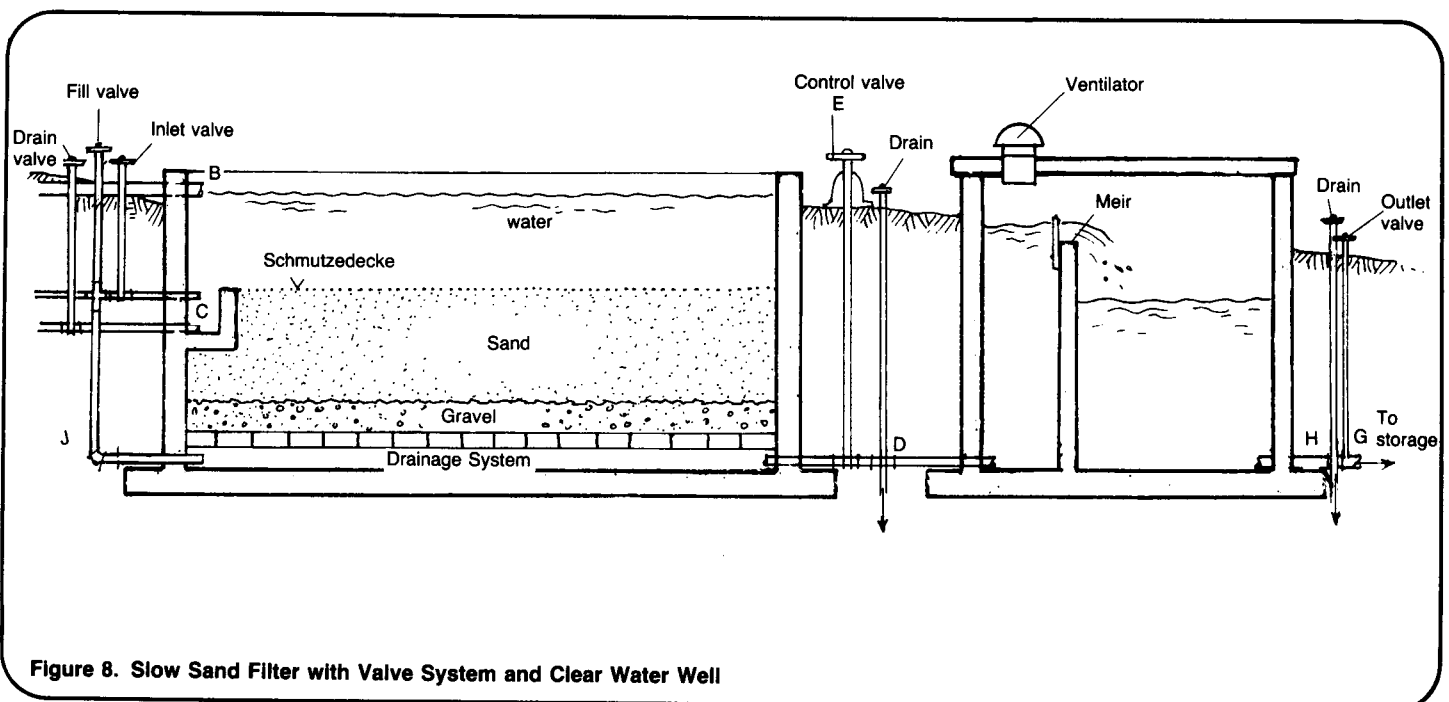

Figure 8. Slow Sand Filter with Valve System and Clear Water Well
The filter control system regulates the flow of water into and out of the sand filter and allows effective operation and maintenance. Refer to Figure 8 when reading these directions. Put piping in place as walls are built.
- Construct an overflow weir and clear water well. For small systems, the clear well may serve as storage for the completed system. In larger systems, a storage tank should be constructed. Build the clear well and weir from the same materials as the filter and follow similar construction steps. The tank should be at least 2.5m deep and hold 30-50 percent of daily water production. Ventilation, or preferably an access opening, should be provided as shown in Figure 8.